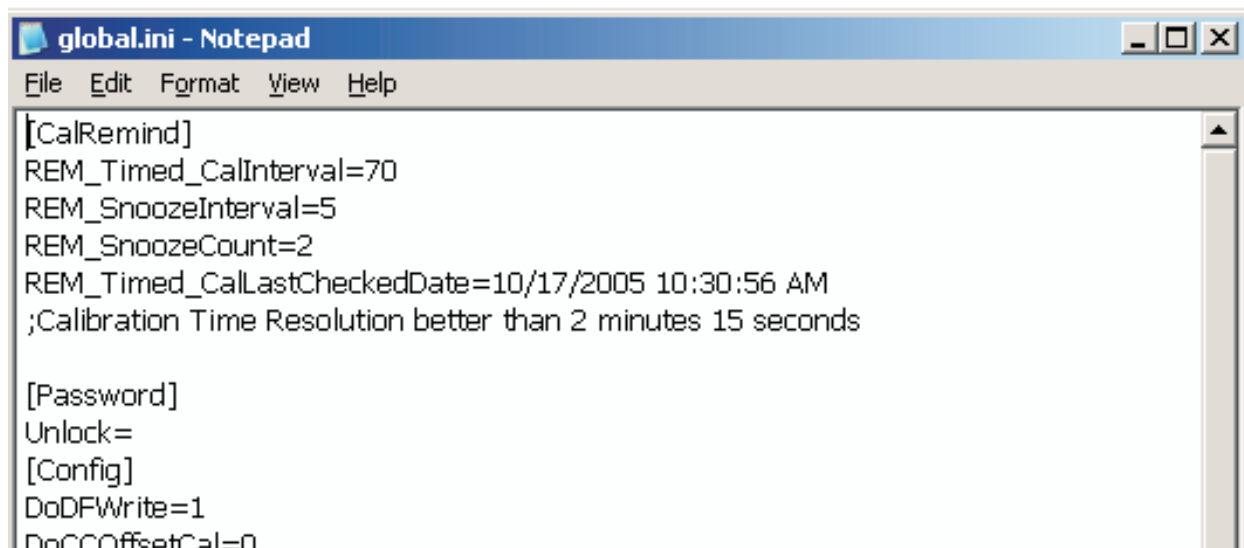

Figure 14. Global.ini file
26.7.161.65 Next Calibration Due The *Next Calibration Due* Indicator indicates when the Multi-Station software will require a calibration of the Voltage, Current, and Temperature references due to timeout of an adjustable software timer in the global.ini file as shown in Figure 14. There are 3 adjustable values of interest in this file under the [CalRemind] Header:
Default settings are shown in Figure 14. With these settings the interval time will be 70 minutes. There will be 2 reminders prior to the 70 minute expiration. Each of these reminders will be 5 minutes apart so one will be at 60 minutes and the next would be at 65. Then at 70 minutes the *Start* button will be disabled until *VTI Calibration Verification* is performed. Adjustments can be made to this file to modify these settings. Caution should be taken when modifying the global.ini file. Only change the numbers beside the values. Any other changes could cause unpredictable results.